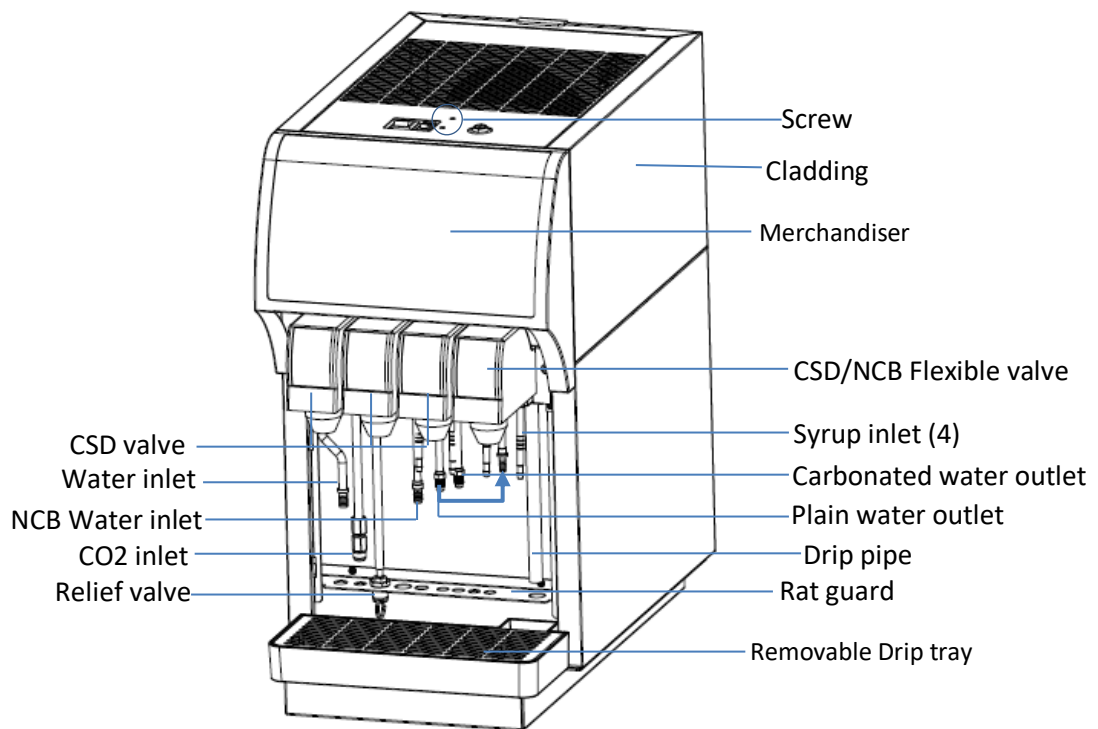

Figure 4
Note: The figure 4 is for 3CSD+1Flex. model. The pipeline interfaces and valve configuration of other models are slightly different. Please refer to the label on the actual model for pipeline connection.
1. Connect the syrup inlet pipe, water inlet pipe and CO₂ inlet pipe according to the labels on the machine, and fasten them with clamps. Refer to figure 4 for the position of pipeline interface (different models may be slightly different, refer to the actual machine label). The pipeline can be led in from the front of the machine or from the back of the machine. No matter which kind of pipeline needs to pass through the rat guard in front of the machine before connecting. If the pipe is led in from the back of the machine, it is necessary to remove the cover plate of the pipe hole at the back of the machine and thread the pipe from the hole into the front of the machine for connection.